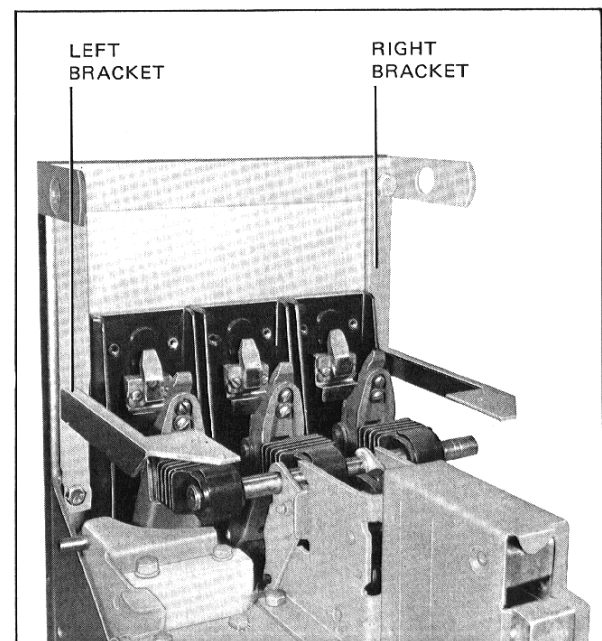

Fig. 11 *Mounting of Amptector Bracket*
- The Amptector Mounting details consist of two (2) "T" shaped brackets, one right and one left hand which are secured to the rear frame. Remove the existing bolts at top, place bracket over lift bracket and secure with .5-13 x 1.25 bolt, using the existing hole secure the bottom end of bracket with .38-16 x 1.5 bolt, Fig. 11.